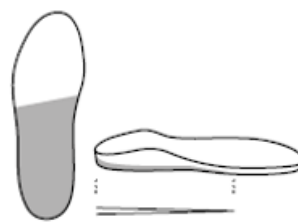
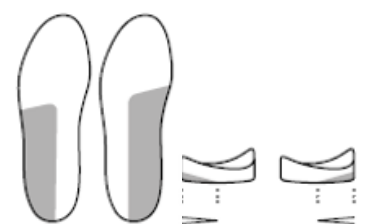

Fig. 1: Heel raise up to 5 mm
Fig. 2: Inner or outer edge elevation
- After the material has cooled, the construction material can be ground on the grinding machine into a heel wedge (Fig. 1) or an inner or outer edge elevation (Fig. 2). The material should taper off to 0 mm at the front at the metatarsal head (Fig. 2).